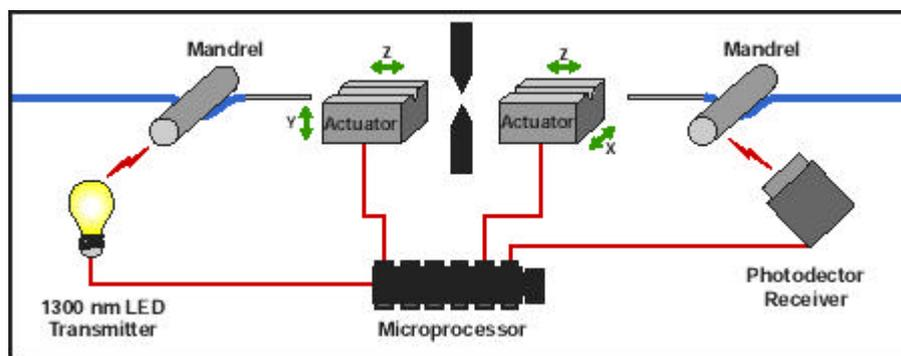

Figure 2-Example of LID-System
- LID-System® - Local Injection and Detection: Local Transmitter Injects Light Into Core And Splicer Positions Cores To Maximize Light Received During Alignment (Figure 2).